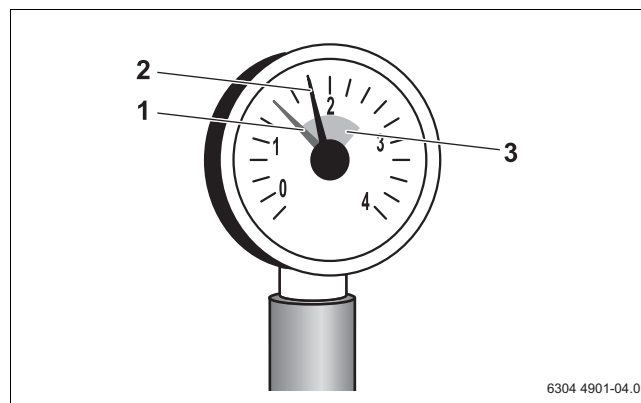

Fig 68 Pressure gauge for sealed systems
- On sealed systems the pressure gauge needle (Fig. 68 Item 2) must be within the green range (Fig. 68, Item 3). Set the red needle (Fig. 68, Item 1) on the pressure gauge to the required system pressure.